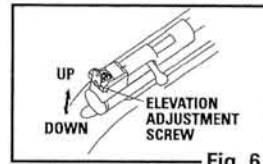

Fig. 6
- The rear sight may be adjusted to shoot higher or lower (elevation). Loosen the elevation adjustment screw by turning it counterclockwise. Move the sight up to make the pellet hit higher on the target. Move the sight down to make the pellet hit lower on the target. Then tighten the elevation adjustment screw by turning it clockwise. (Fig. 6)